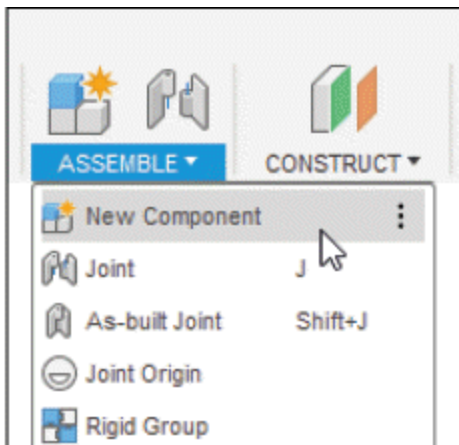
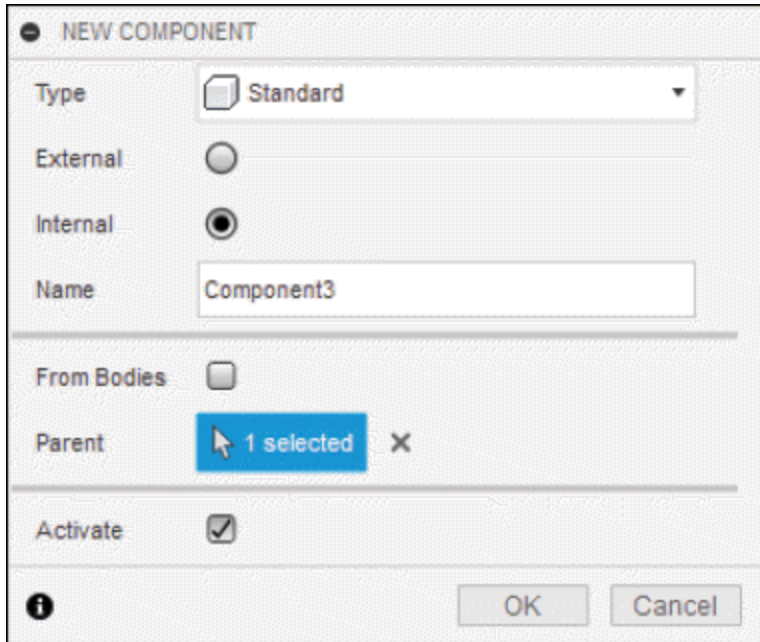

Figure-72. New Component tool
Figure-73. NEW COMPONENT dialog box
- Click on **New Component** tool of **ASSEMBLE** drop-down from **Toolbar**; refer to Figure-72. The **NEW COMPONENT** dialog box will be displayed; refer to Figure-73.